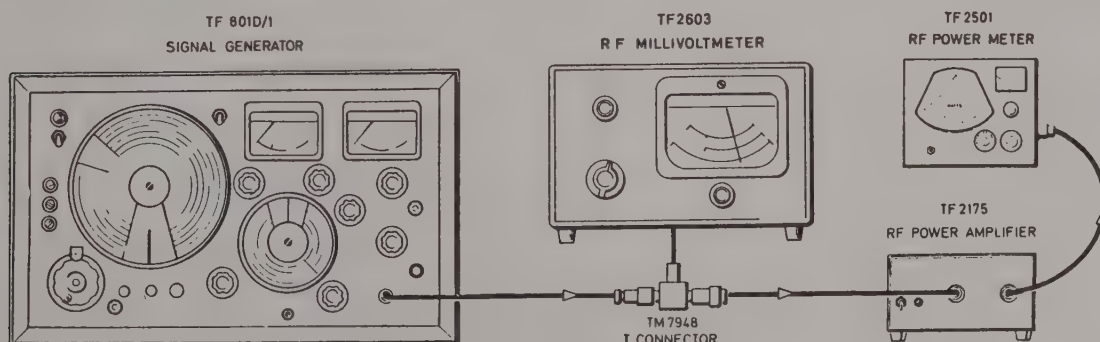

Fig. 3 Power output measurement
12. Connect the equipment as shown in Fig. 3 and proceed as follows:-